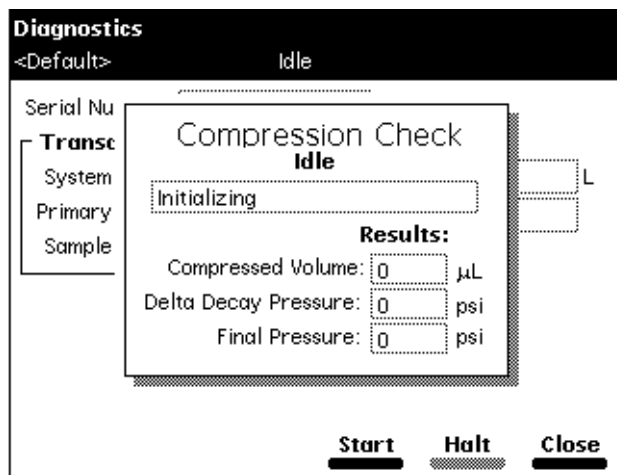

Figure 8-5 Compression Check Screen
3. Press the **Comp Chk** screen key in the Diagnostics screen. The Compression Check dialog box appears (Figure 8-5).